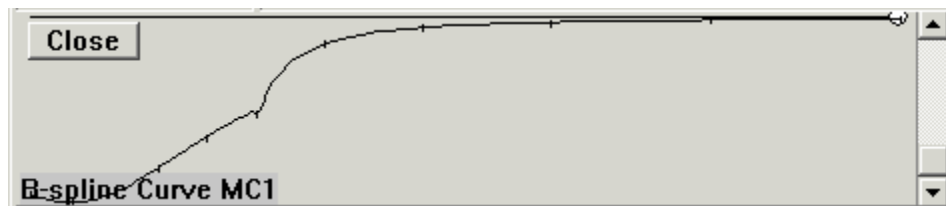

Fig. 47
**20 Select 'MC1'** and **View its Curvature Profile** (Fig. 47).